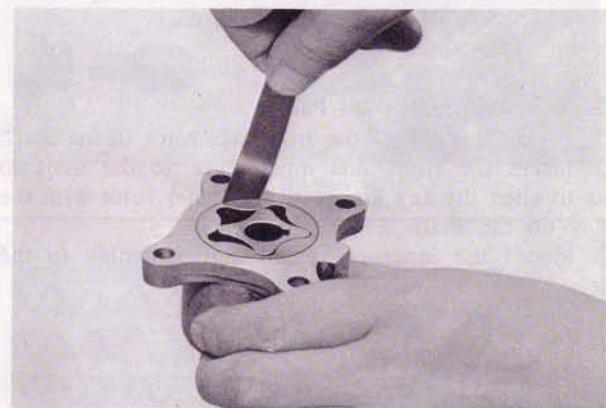

Fig. 2-4 Checking outer rotor clearance
2. Check the clearance between the outer rotor and pump body with a feeler gauge as shown in Fig. 2-4. The specified clearance is $0.20 \sim 0.25$ mm ($0.008 \sim 0.01$ in). If the clearance is more than **0.30 mm (0.012 in)**, replace the rotor(s) or body.